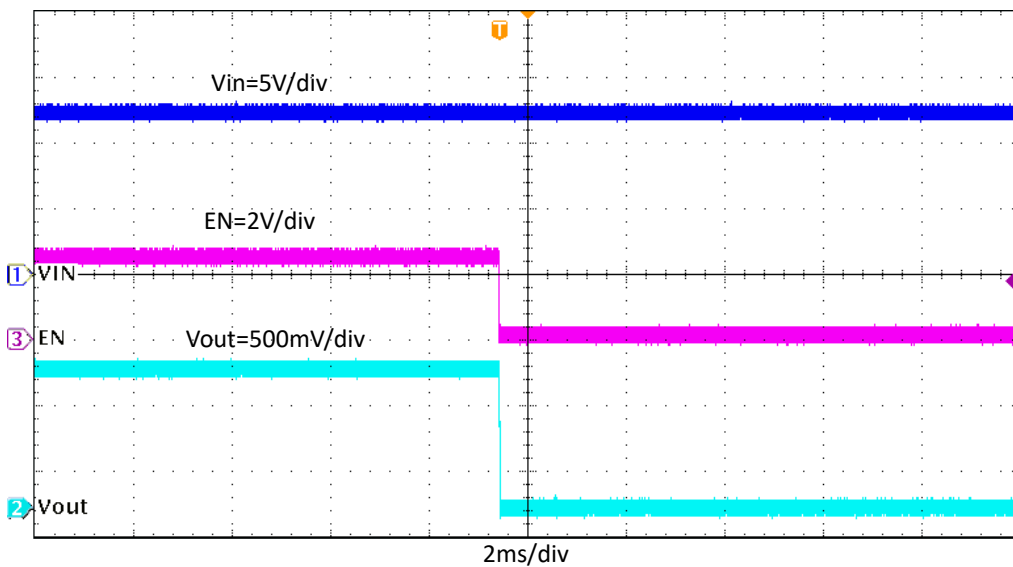

Figure 4-17. TPS564252EVM Shutdown Relative to EN
Figure 4-17 shows the TPS564252EVM shut-up waveform relative to enable (EN). The load is 4 A.